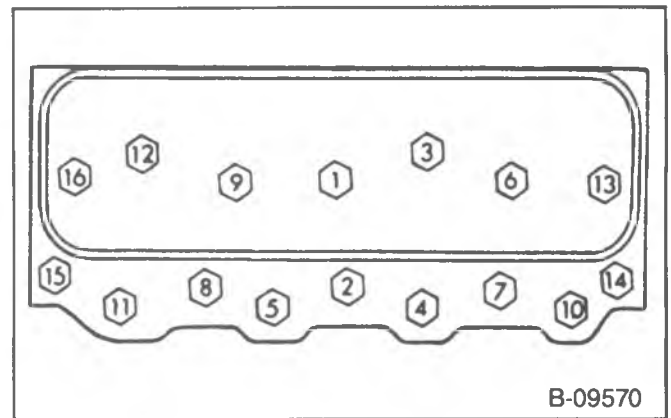

Figure 9—Cylinder Head Bolt Tightening Sequence
→ Install or Connect (Figure 9)
- Cylinder head bolts, a little at a time, using the sequence shown in figure 9. Proper torque is 110 N·m (80 ft. lbs.).